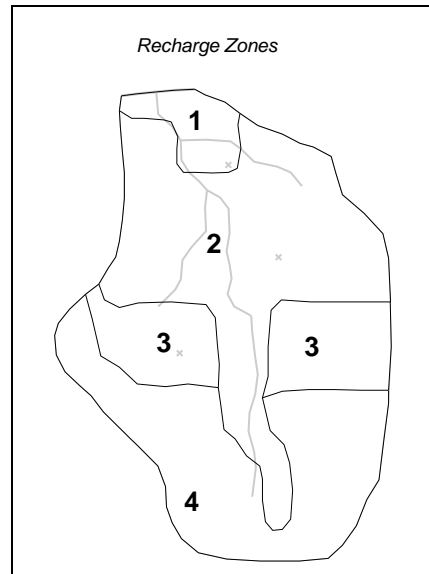

Figure 2 Recharge zones
First, it is necessary to assign the transient recharge rate for the recharge zones. The recharge zones are shown in Figure 2. There are four recharge zones defined by five polygons. Leave the recharge rate for zone 1 at zero and assign a transient recharge rate to the other three zones.
3. Using the **Select Polygon**  tool, select the polygon corresponding to recharge zone 2 in Figure 2.
10. Double-click on any of the polygons in zone 3 or zone 4 (see Figure 2) to open the *Attribute Table* dialog.